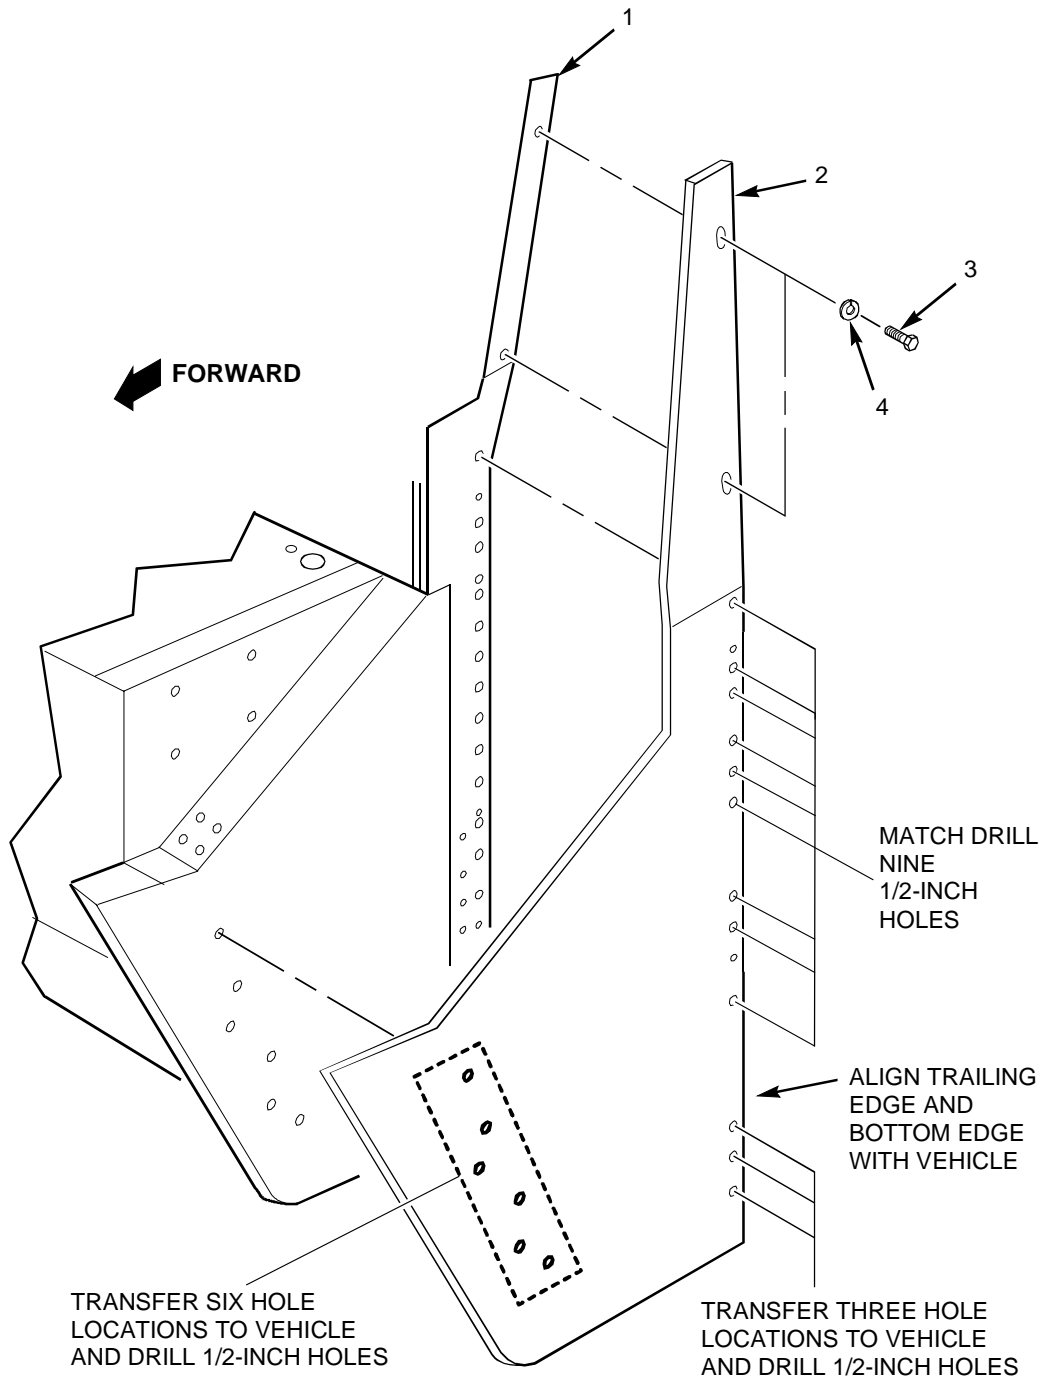

Figure 1-1. Left Side A-Pillar Armor Pre-Installation Fit (2 and 4 Door)
- 1) Pre-fit left side A-pillar armor as follows (see figure 1-1).
- a. Position and align A-pillar armor (2) with vehicle (1) per figure 1-1.
- b. Install c-clamps to secure A-pillar armor (2) in position on vehicle (1).
- c. Install two capscrews (3) and locking washers (4) per figure 1-1. Do not torque capscrews (3).
- d. Match drill nine 1/2-inch holes through A-pillar armor (2) into vehicle (1) as shown in figure 1-1.
- e. Transfer and drill three 1/2-inch gap plate holes per figure 1-1. Transfer and drill six 1/2-inch A-pillar armor hole locations per figure 1-1.